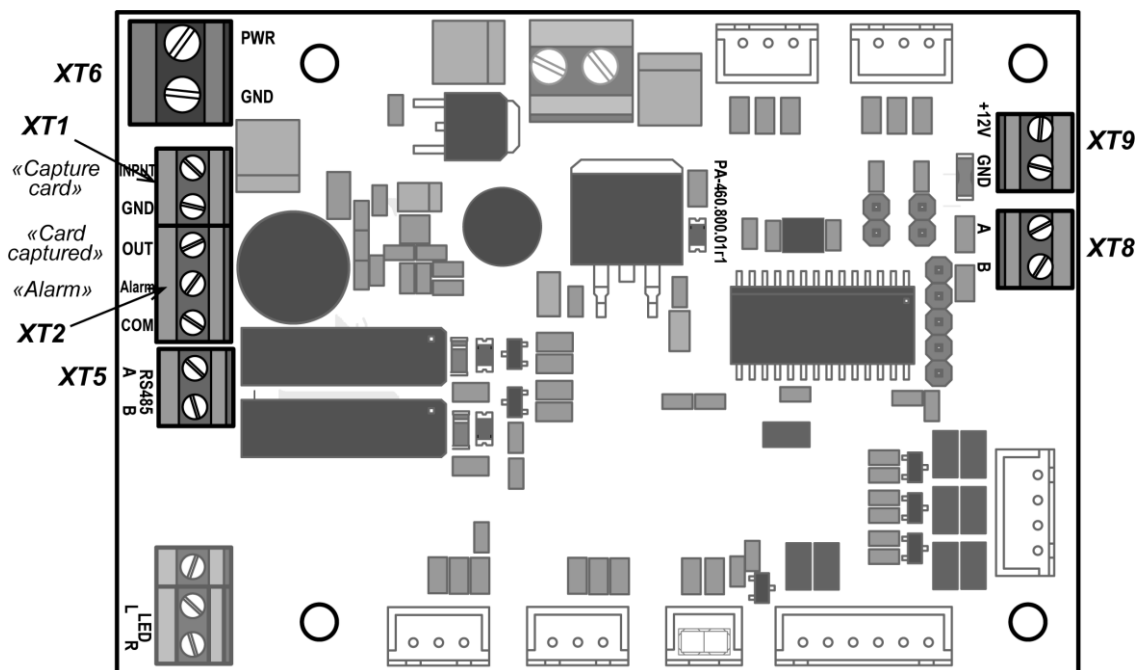

Figure 2. Card capture reader control board
3. If the presented card is a temporary visitor's card and should be withdrawn, then the ACS-controller sends the signal to the card capture reader control board input "Capture card" (INPUT **XT1**, see Fig. 2). The card slot backlight will switch to the flashing mode of 2 times per second indicating that the card should be withdrawn.
6. The third optical sensor monitors overflow of the container with cards. When a container is overfilled, the card capture reader sends the "Alarm" signal to the ACS-controller (**XT2** Alarm output, Fig. 2); 2 seconds on / 2 seconds off indication warns the operator that it is necessary to empty container from cards. The card capture reader operation will be blocked after it receives another 9 cards if the container is not emptied. Unblocking of the card capture reader and deactivation of the "Alarm" signal will occur automatically when the container is emptied from cards (see Sect. 4.3). Also, the "Alarm" signal is sent to the ACS-controller in case the card capture reader is broken.
Card capture reader control board layout is shown in the Fig. 2. There are terminal blocks on the board: